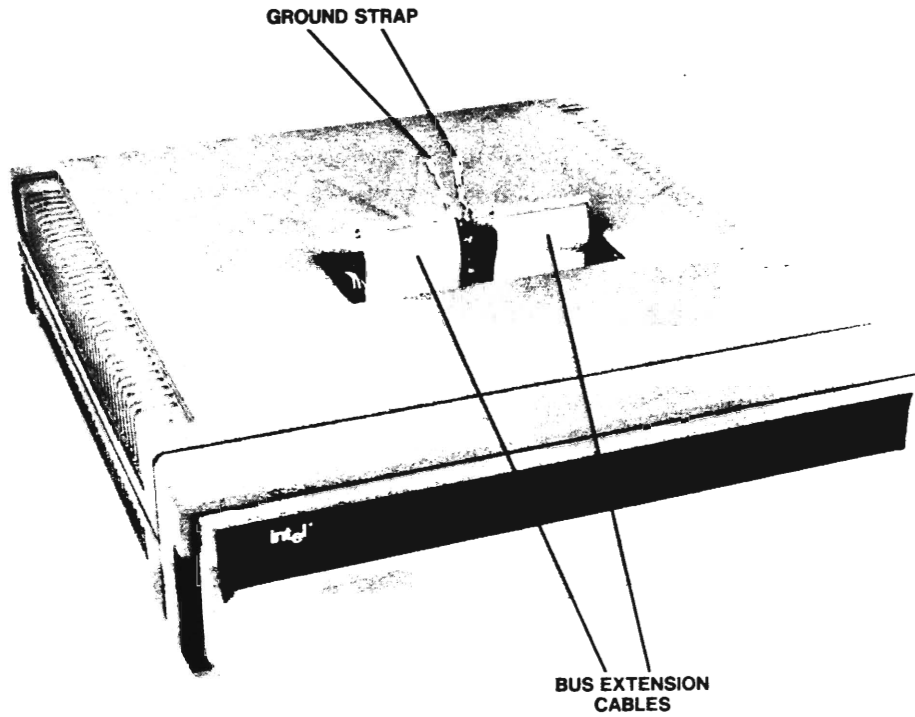

Figure 2-8. Expansion Chassis Cable Port Details
- d. Tilt the mainframe forward (or backward) and disconnect the braided ground strap and flat bus extension cables from inside the mainframe cable port (see Figure 2-8).
- l. Place the mainframe on top of the expansion chassis. Tilting the mainframe backward to access the interior of the cable port, connect the two bus extension cables to the connectors inside the cable port (see Figure 2-8). Attach the quick disconnects on the ground strip to the two ground lugs located between the two bus connectors inside the mainframe cable port.